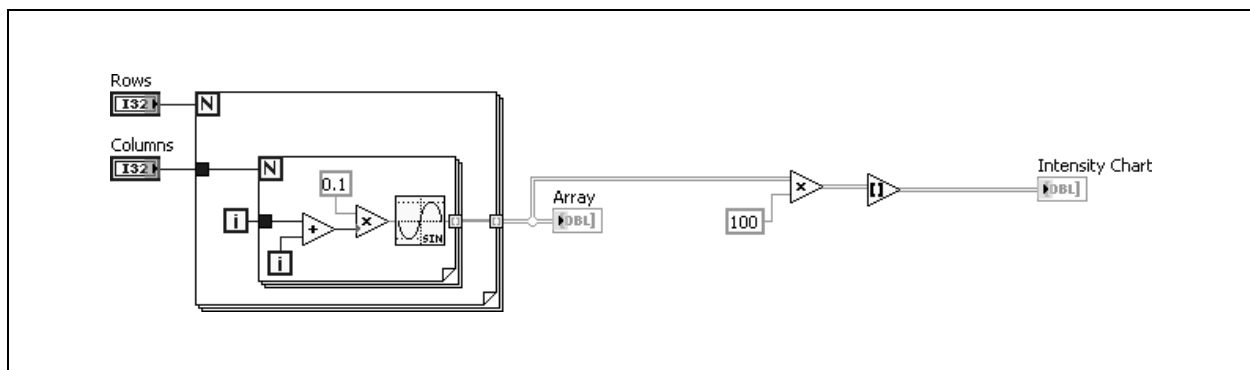

Figure 5-12. Array Investigation Part 2 VI Block Diagram
5. Right-click the border of the remaining For Loop and select **Remove For Loop** from the shortcut menu. Your block diagram should resemble the one shown in Figure 5-12.